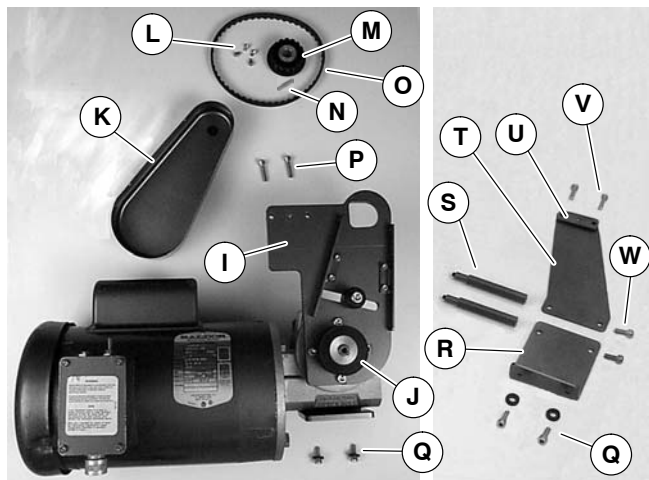

Figure 2
## 1. Typical components (Figure 2)
**NOTE:** 2100, 2200, MPB and 6200 2" & 3" (51mm & 76mm) and 4100 1" through 6" (25mm – 152mm) conveyors do not include parts R through W of Figure 2.